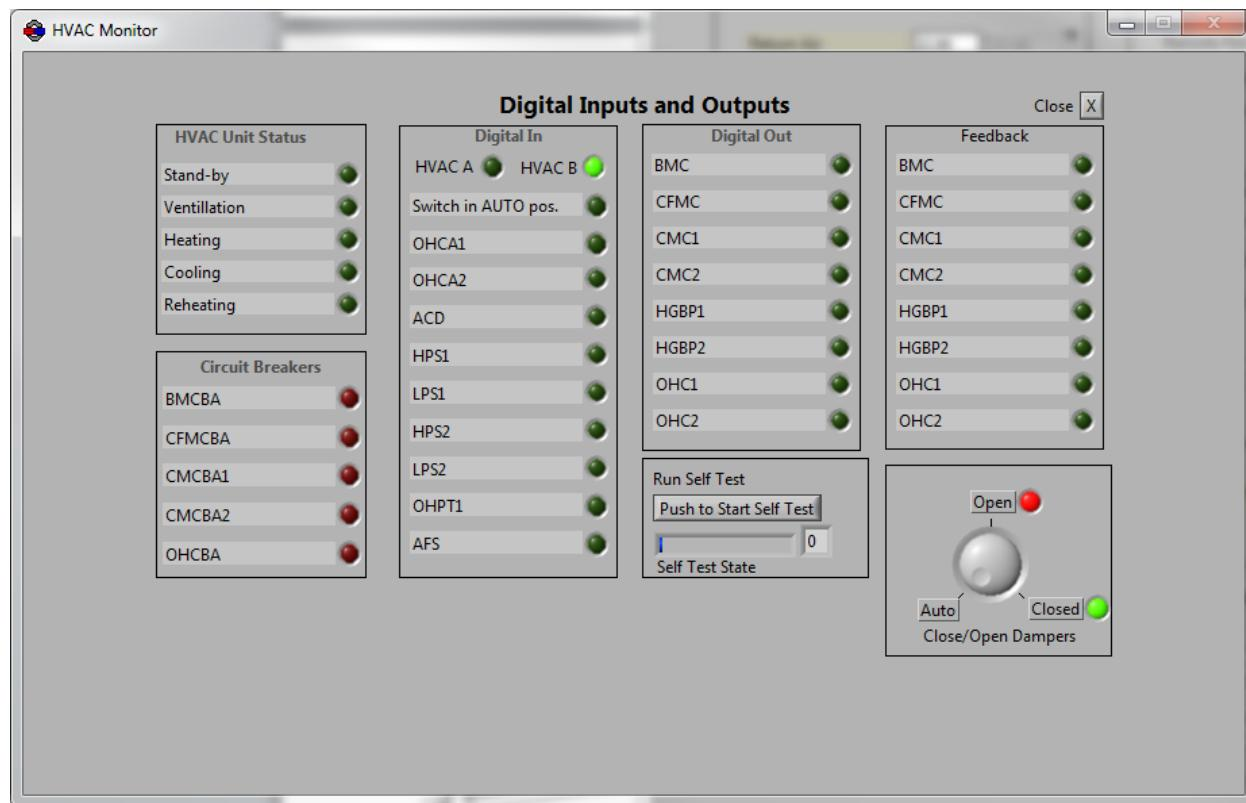

Figure 5-11: HVAC System Self-Test
Refer to Figure 5-11.
1. Using PTU, click “Digital I/O” button to open Digital Inputs and Outputs screen. Refer to Figure 5-11.